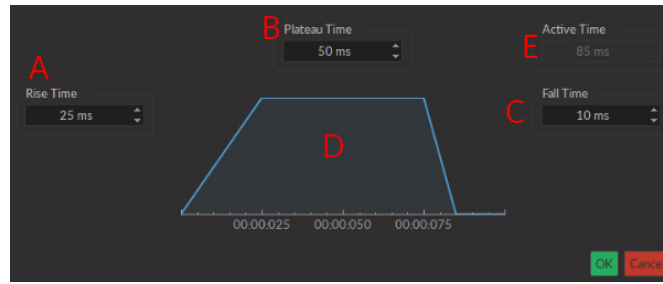

Figure 3.7: Light Source Smoothing Edge(s) Window
- iv. The **Smoothing** option is used to change the pulse slope in square pulse sequences. The **Edit Edges** button opens the **Smoothing Edge(s)** window (Fig. 3.7).